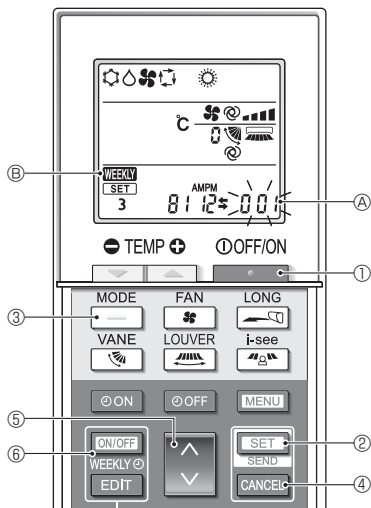

Fig. 4-9
- Press the **MENU** button ②.
4.9.8. How to disable Auto mode operation (Fig. 4-9)
1. Press the **STOP** button ① to stop the air conditioner.
- If the weekly timer is enabled, press the **ON/OFF WEEKLY** button ⑥ to disable the timer. (**WEEKLY** ⑧ disappears.)
2. Press the **SET** button ② for 5 seconds.
- The unit enters the function setting mode. (The group model setting number ④ blinks.)
3. Press the **DOWN** button ④.
4. Completing the settings (Fig. 4-9)
- Press the **SET** button ② for 5 seconds.